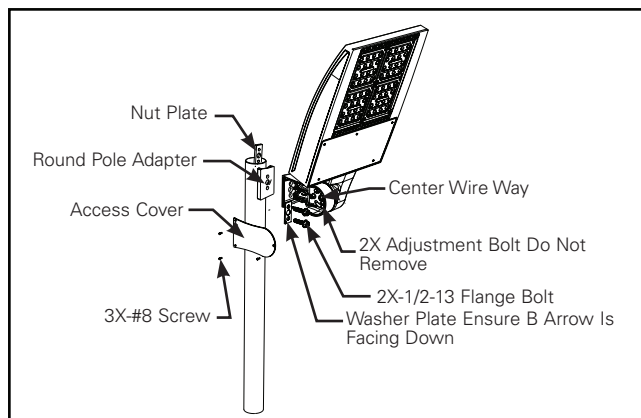

Figure 3.
Pole Mount, Adjustable (PA) (Fig. 3)